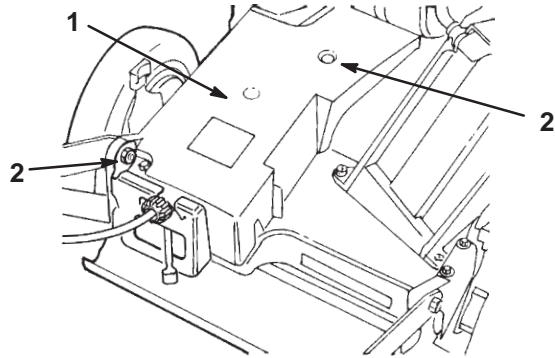

Figure 30
2. Remove the two bolts that secure the belt cover (Fig. 30) to the mower housing.